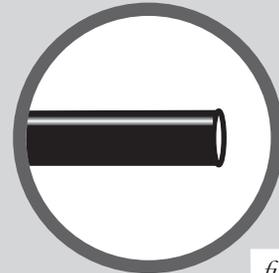

fig. 15
When cutting air lines, use a sharp knife or a hose cutter and make clean, square cuts (Fig. 15). Do not use scissors or wire cutters because these tools may deform the air line, causing it to leak around fittings. Do not cut the lines at an angle. Do not bend the 1/4" hose at a radius of less than 1" or bend the 3/8" hose at a radius of less than 1 1/2". Do not put side load pressure on fitting. The hose should be straight beyond the fitting for 1" before bending. Inspect hose for scratches that run lengthwise on hose prior to installation. Contact Air Lift customer service at (800) 248-0892 if the air line is damaged.
- a. Check the air line connection by deflating the spring and removing the line by pulling the collar against the fitting and pulling firmly on the air line. Trim 1" off the end of the air line. Be sure the cut is clean and square (see Fig. 15). Reinsert the air line into the push-to-connect fitting.